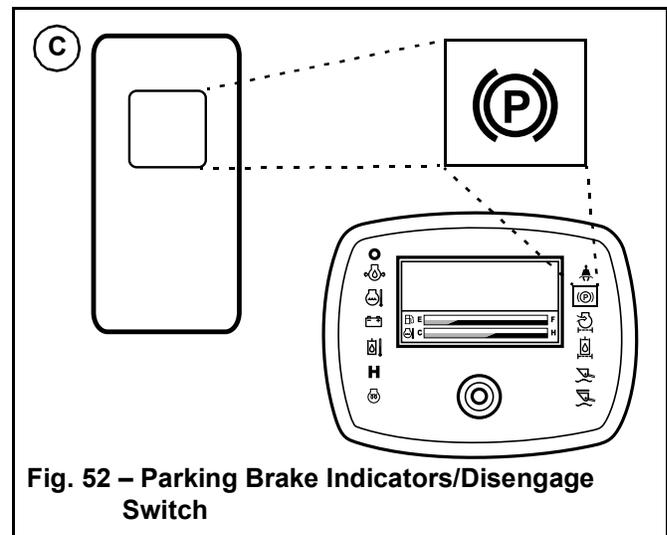

Fig. 52 – Parking Brake Indicators/Disengage Switch
5. Press and hold the top of the parking brake switch (C, Fig. 52) for several seconds until the indicator lights in the switch and on the multi-function display go out.